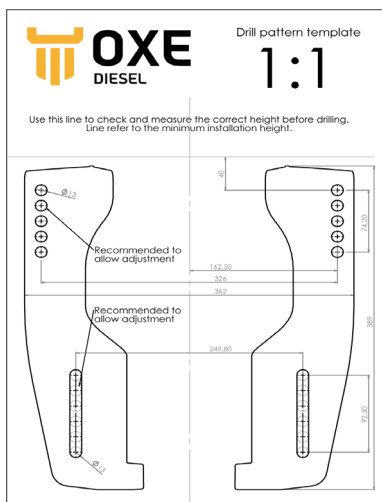

Fig. 15 Oxe outboard drilling template
The Oxe outboard drilling template (Figure 15) is included in the Accessory box with the purchase of OXE outboard engines.
1. Use the transom mount template to drill the holes for the engines. See Figure 15.